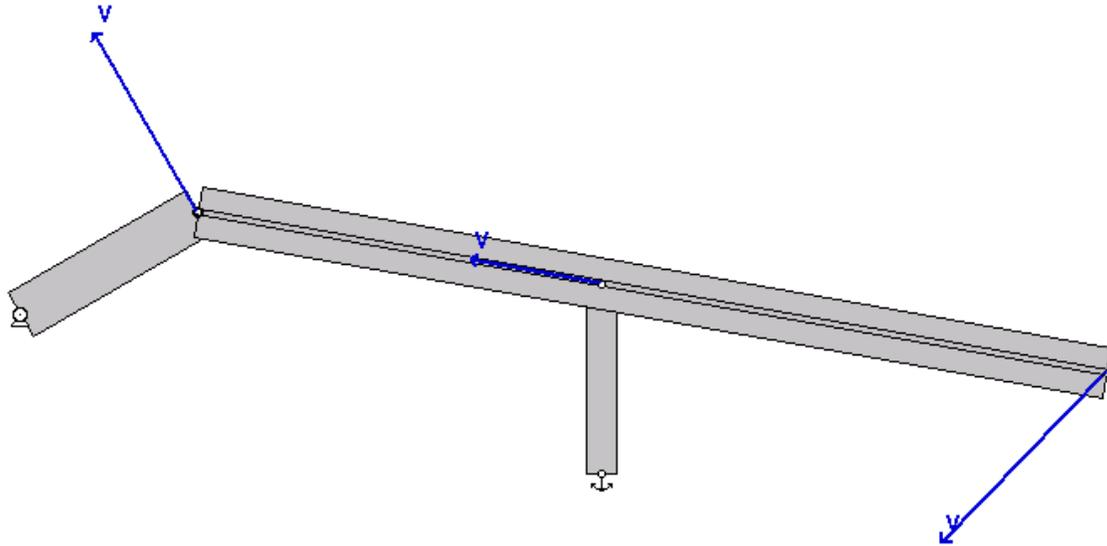

Figure 9
17. Click on the Run button to get the results similar to the Figure 9.